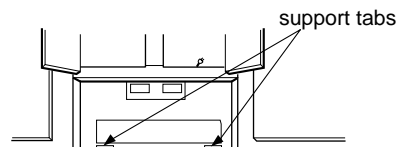

Figure 26
3. Place the mounting plate against the wall and match the screw holes. See Figure 26.
1. Carefully lift microwave oven and hang it on support tabs (See Figure 26, page 14) at the bottom of the mounting plate. Reaching through upper cabinet, thread power supply cord through the power supply cord hole in the bottom of the upper cabinet. See Figure 29.